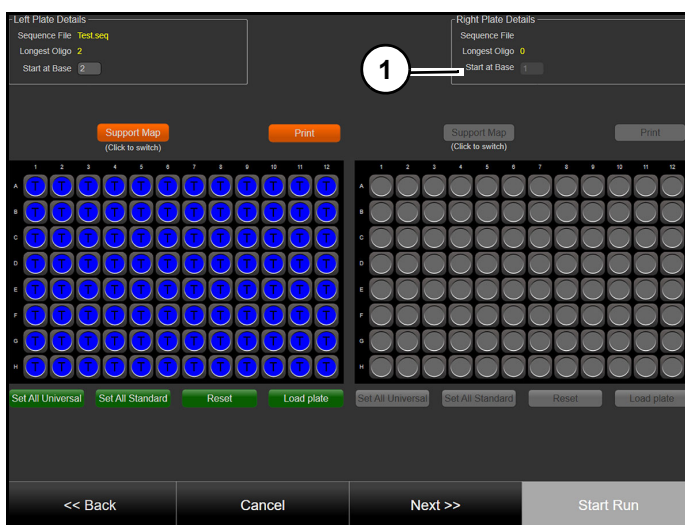

Figure 86
Under plate details box, there is a start at base box (1) (Figure 86). For standard CPG, this box will have a value of 2 and for universal a value of 1. If there is a mixture of universal and standard CPG columns in a plate(s), software will start run as if all columns are universal, but not add any reagent or start synthesis in standard CPG columns until Base 2. Only ACN will be injected in standard CPG columns if "use additional wash steps" option is selected in run settings under system settings menu.